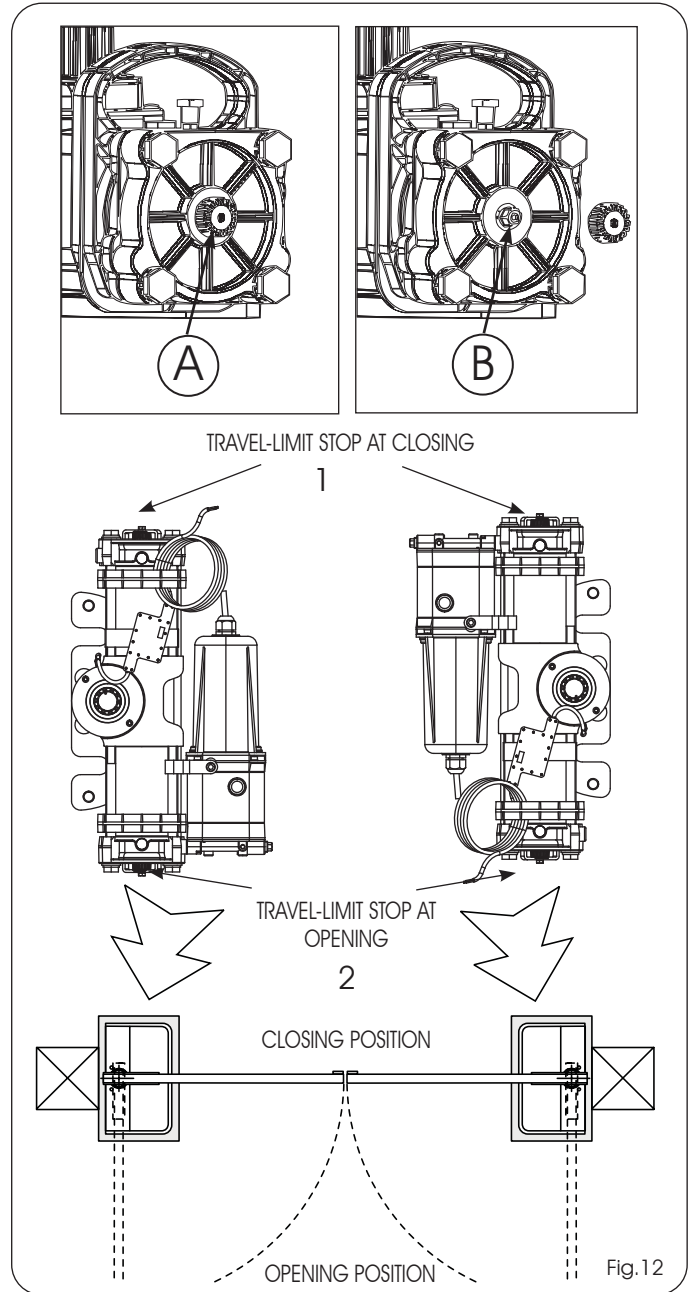

Fig.12
- 3) Unscrew the plastic cap (Fig.12 ref.A) of the closing travel-limit screw (Fig.12 ref.1)
- 4) UNSCREW the travel-limit stop screw (Fig.12 ref.B) at closing (Fig.12 ref.1) until it encounters resistance. **Do not force.**
- 7) Unscrew the cap of the screw (Fig.12 ref.A) of the opening travel-limit stop (Fig.12 ref.2).
- 8) UNSCREW the travel-limit stop screw (Fig.12 ref.2), until the leaf encounters resistance. **Do not force.**